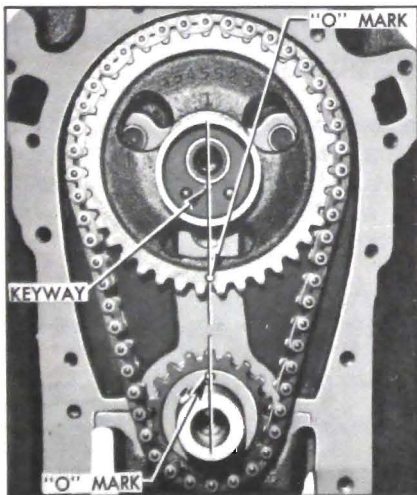

Figure 2-24—Timing Chain and Sprockets Properly Installed
4. If there has been doubt about the valve timing, turn crankshaft until the camshaft sprocket keyway is straight down toward the crankshaft and the "0" timing marks on both sprockets are toward each other and in line with shaft centers. See Figure 2-24.
7. When ready to install timing chain, turn crankshaft until Nos. 1 and 4 pistons are on top dead center. Turn camshaft so that the sprocket key points straight down toward crankshaft. See Figure 2-24.
8. Place timing chain over the camshaft and crankshaft sprockets so that the "0" marks stamped on front faces of sprockets are nearest each other and aligned between the sprocket hubs. Install sprockets with chain on the two shafts. See Figure 2-24.